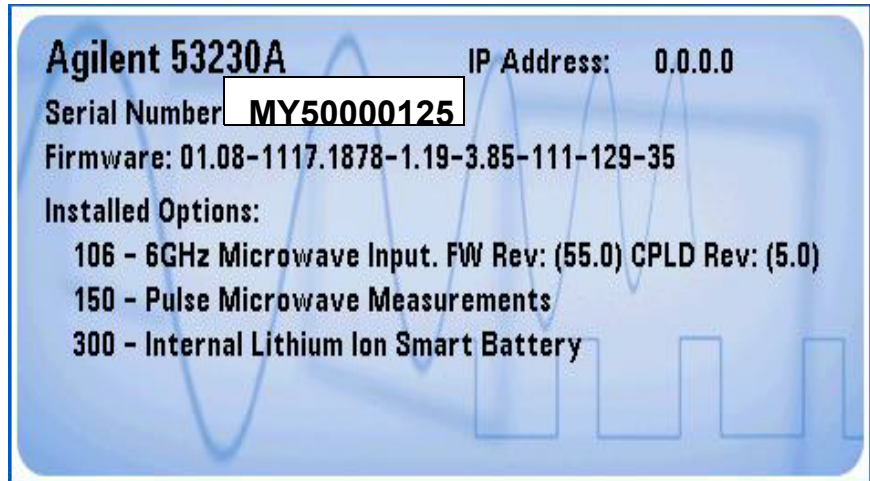

Figure 6-1. Information Screen
The serial number *prefix* for your counter is the first 5 character positions in the serial number shown on the counter (for example: **MY50000125**). The counter serial number *suffix* (for example: **MY50000125**) is the production number of the counter. The *whole number* (MY50000125) is the actual serial number of the counter. See Figure 6-1.
This guide applies directly to Counters with the serial prefixes listed in Table 6-1. (See also Figure 6-1.)
- An information screen (Figure 6-1) is displayed that contains the following items: